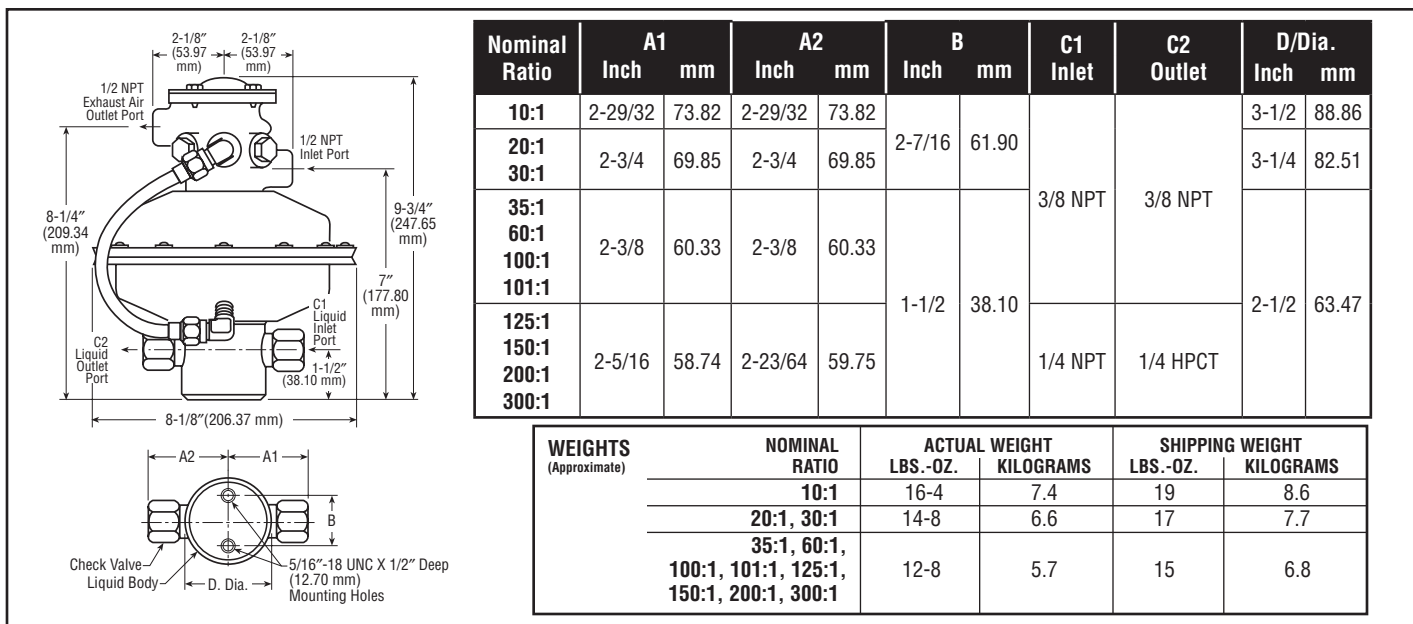

Figure 1-1 Basic pump dimensions and weights
- 1.3 MOUNTING-Two mounting holes are provided on the underside of the basic model pump's fluid body for attachment to a base plate or platform. See Figure 1-1.